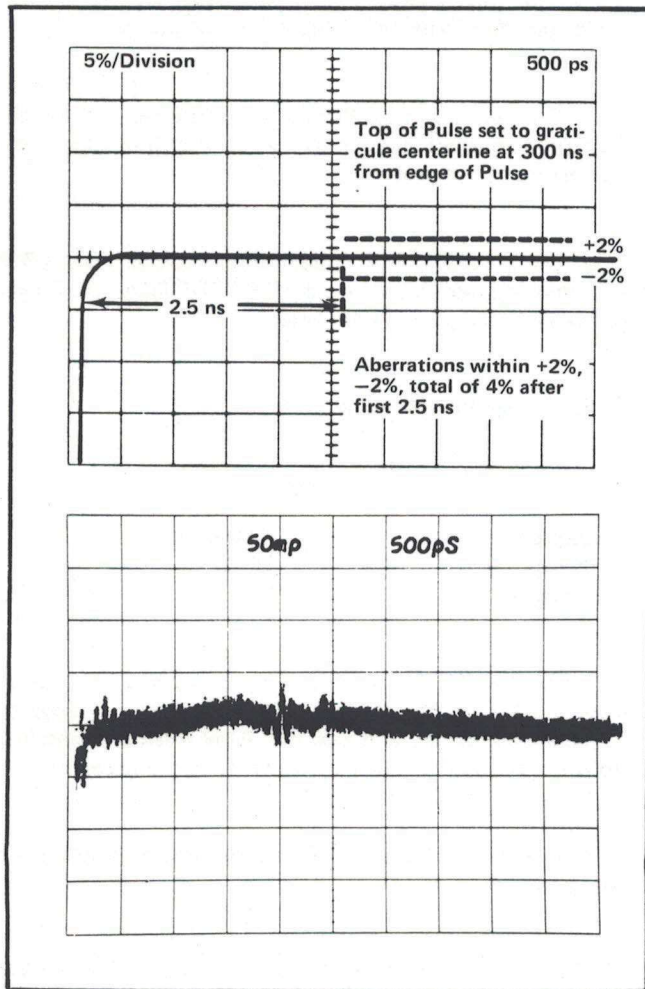

Fig. 5-9. Aberrations after the first 2.5 ns information (upper) and typical display (lower).
f. Set the Time-Distance Multiplier at X.1 and the Time/Div switch at 500 ps. Adjust the Time-Distance control to position the point which is 2.5 ns from the start of the pulse at the graticule center. See Fig. 5-9.